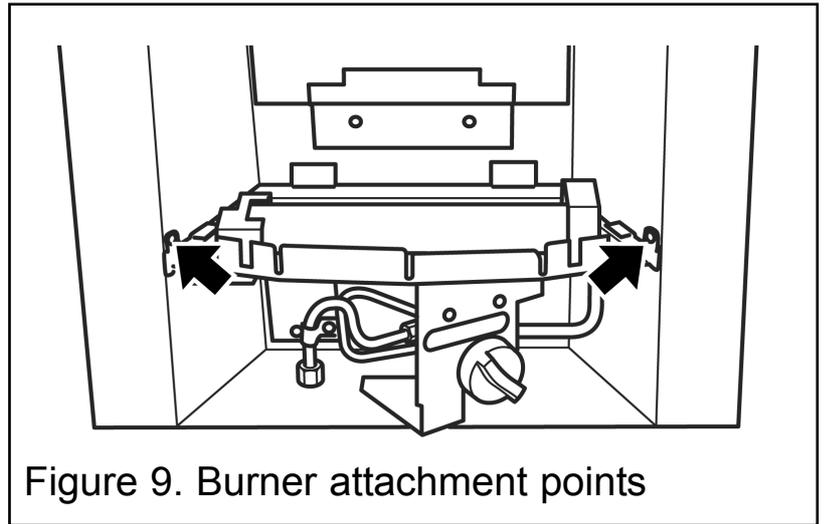

Figure 9. Burner attachment points
3. Detach the burner unit from the hotbox by removing two screws - See figure 9. Lift the burner unit clear.